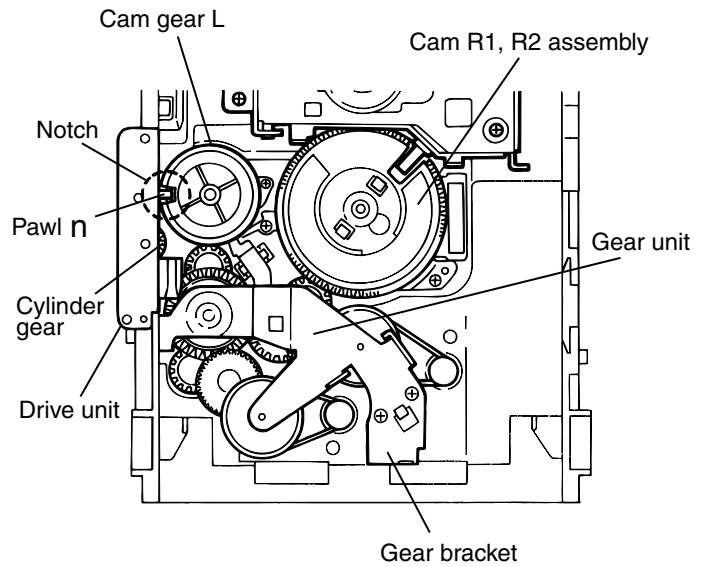

Fig.24
**[Caution]** To reassemble the cylinder gear, etc.with the cam unit (cam gear and cams R1/R2 assembly), gear unit and drive unit, align the position of the pawl **n** on the drive unit to that of the notch on the cam gear **L**. Then, make sure that the gear unit is engaged by turning the cam gear **L** (See Fig. 24).